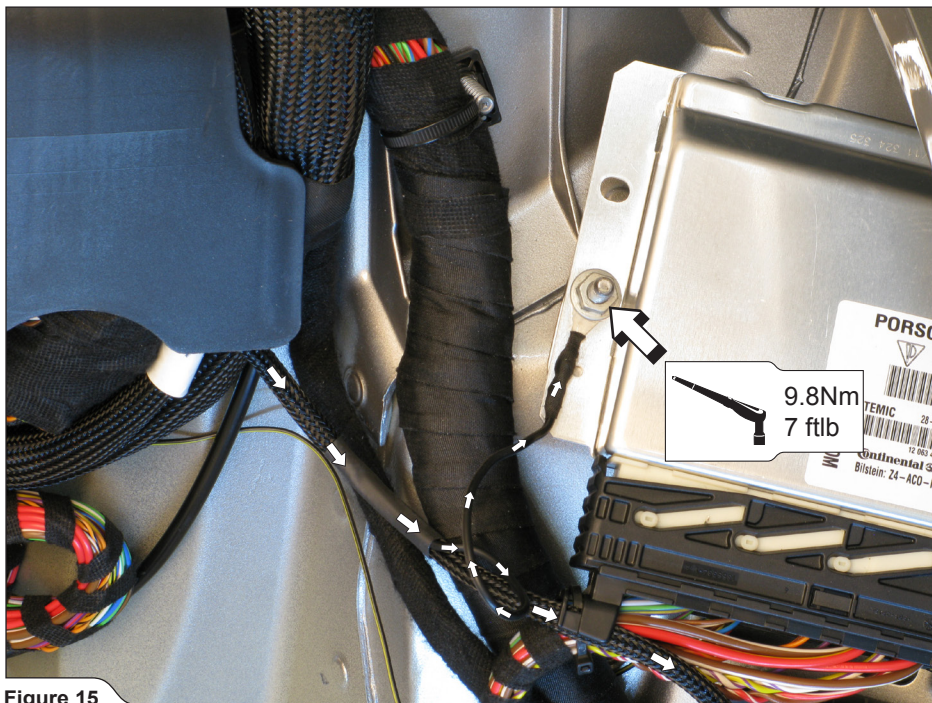

Figure 15
11. Attach the transmitter's ground connector onto the chassis, using marked stock nut (**Figure 15**).